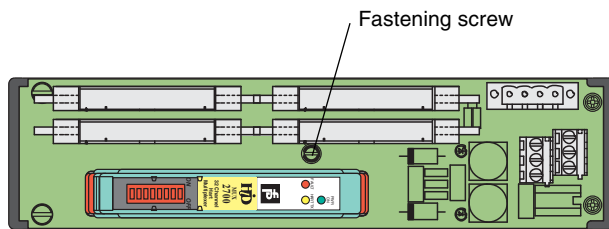

Figure 6 Top view of the H-System HART Communication Board
- Tighten the fastening screws (Figure 6).